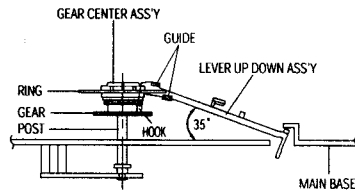

Fig. 2-30 Lever Up Down Ass'y Removal
- 1) Insert the Lever Up Down Ass'y ① in the rectangular holes on Main Base as shown in Fig 2-30.
- 2) Lift the Lever Up Down Ass'y ① about 35°.
- (Refer to Fig 2-30)
- 3) Insert Ring of the Gear Center Ass'y ② in the Guide of the Lever Up Down Ass'y ①.
- 4) Insert the Gear Center Ass'y ② in the post on Main Base.
- 5) Push down the Lever Up Down Ass'y ① for locking of the Hook.